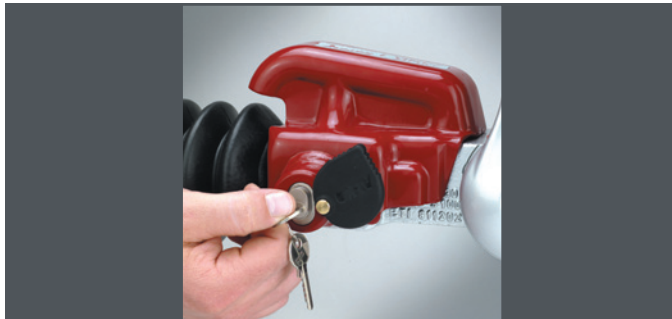

Fig 3 Lock security device and swing cover over lock
- 3 Hold security device in place, turn key to the right and press the lock cylinder in, until it clicks into place (Fig 3). Turn the key to the left into the locked position. The strain bolt then moves out and locks.